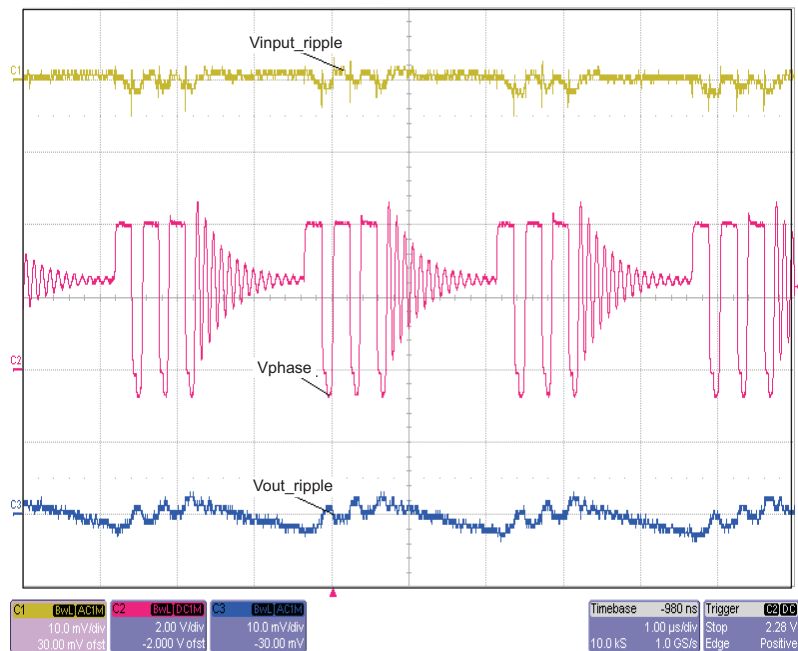

Figure 3. PFM Mode. Vin = 4 V, Vout = 2.5 V, Iout = 25 mA. DCM Operation, Therefore PFM Mode CH1 = Input Ripple; CH2 = Phase; CH3 = Output Ripple
4. Change the load to from 5 Ω to 100 Ω , 0.25 W. Observe the change in the switching waveforms. As the load is reduced, the inductor current becomes discontinuous, and the control automatically switches to PFM mode. Users may need to change the time scale on the oscilloscope to 1 μ s/div for light loads (see Figure 3). . Set the load back to approximately 5 Ω .